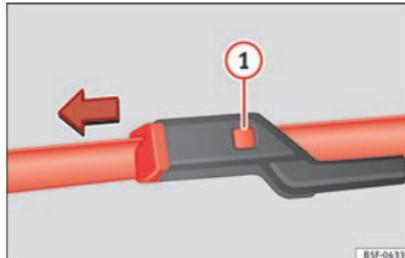

Fig. 72 Changing the windscreen wiper blade.
- Press the securing tab down **1** »» **Fig. 72**.